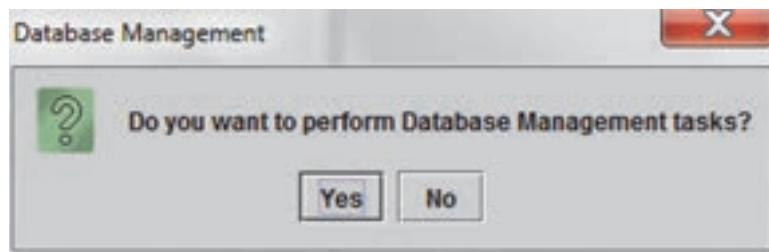
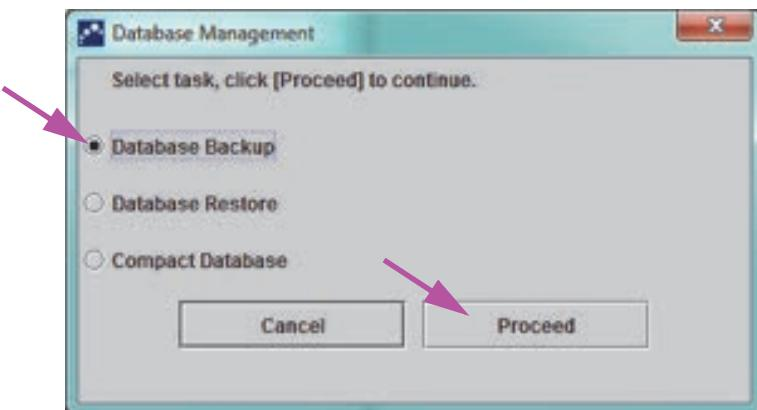

Figure 5-72. Database Management Dialog Box
Figure 5-73. Database Management Window
The GeneXpert Dx system administrator specifies whether you have permission for the data management tasks. See Section 2.13, Defining Users and Permissions. See the GeneXpert Dx system administrator to adjust the permissions to meet your requirements. If **Database Management Reminders** are enabled, the user is prompted on startup whether to perform database management. The prompt appears only if the user has privileges to perform these tasks. If the user does not have any of these privileges or if **Database Management Reminders** are disabled, the prompt will not be displayed. See Figure 5-72.
8. If you do not want to perform database management tasks, click No in the Database Management dialog box (see Figure 5-72). and skip to Section 5.2.3.2, Archive Overdue Reminder.
If you want to perform database management tasks, click Yes in the Database Management dialog box (see Figure 5-72). The Database Management window appears. See Figure 5-73.
1. Select **Database Backup** on the Database Management window (see Figure 5-73).